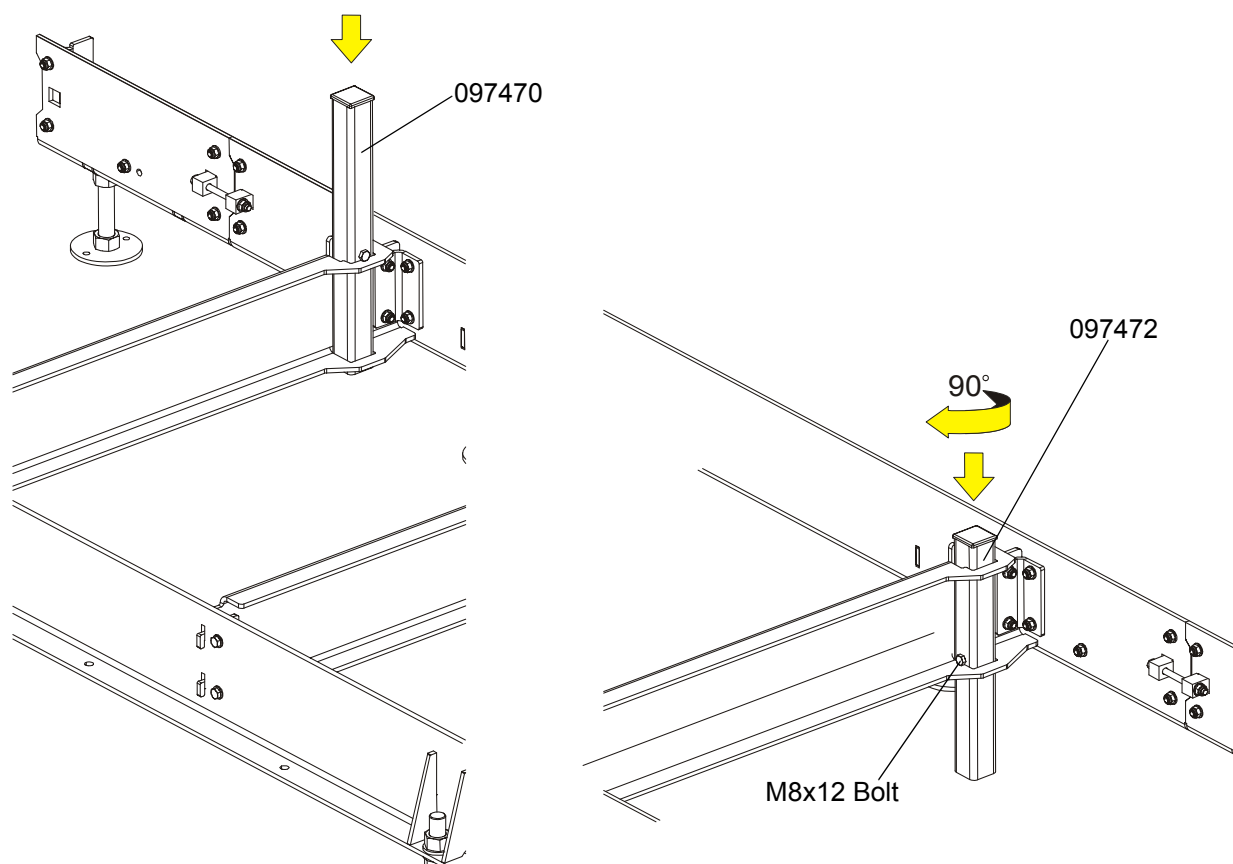

FIG. 2-8
7. Each bed segment has got two side supports (Part No 097470 – long and 097472 – short). Install the log side supports as shown on the Figure 2-8. Each side support can be adjusted in two positions, depends of the cutting height.
See Figure 2-8.